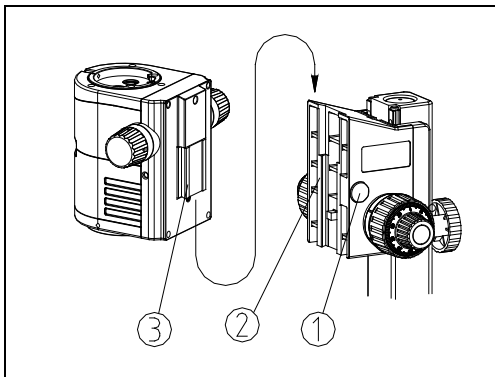

Fig.4
1. Remove the cover (1) of the focus bracket and loosen the M4 hex screw (See Fig. 4)
2. Align the dovetail interface (3) of the microscope body with the dovetail groove (2) of the focus bracket and insert it from top to bottom as shown in the figure.
3. Tighten the M4 hex screw on the focus bracket with a M4 hexagon spanner, then replace the decorative cover (1).